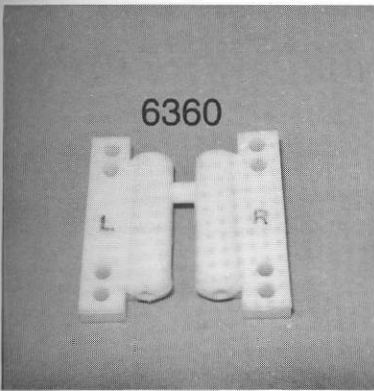

Fig. 91
□ **Figs. 91 & 92** Now it is time to open up bag #6-8 and remove the two #6360 nylon rear suspension mounts. Your rear suspension mounts will be connected by a nylon molding runner. Remove both mounts from the runner. On the bottom of the mounts you will find a "R" and "L" molded
Place the #6360 rear mount with the "L" molded into it between the ears of the #6355 rear arm as shown. Now slide the #7356 hinge pin through one side of the rear arm, through the mount, and then out the other side of the rear arm. Now install an E-clip on each groove of the hinge pin. Now go back to fig. 91 and repeat the steps for assembling the right hand parts.